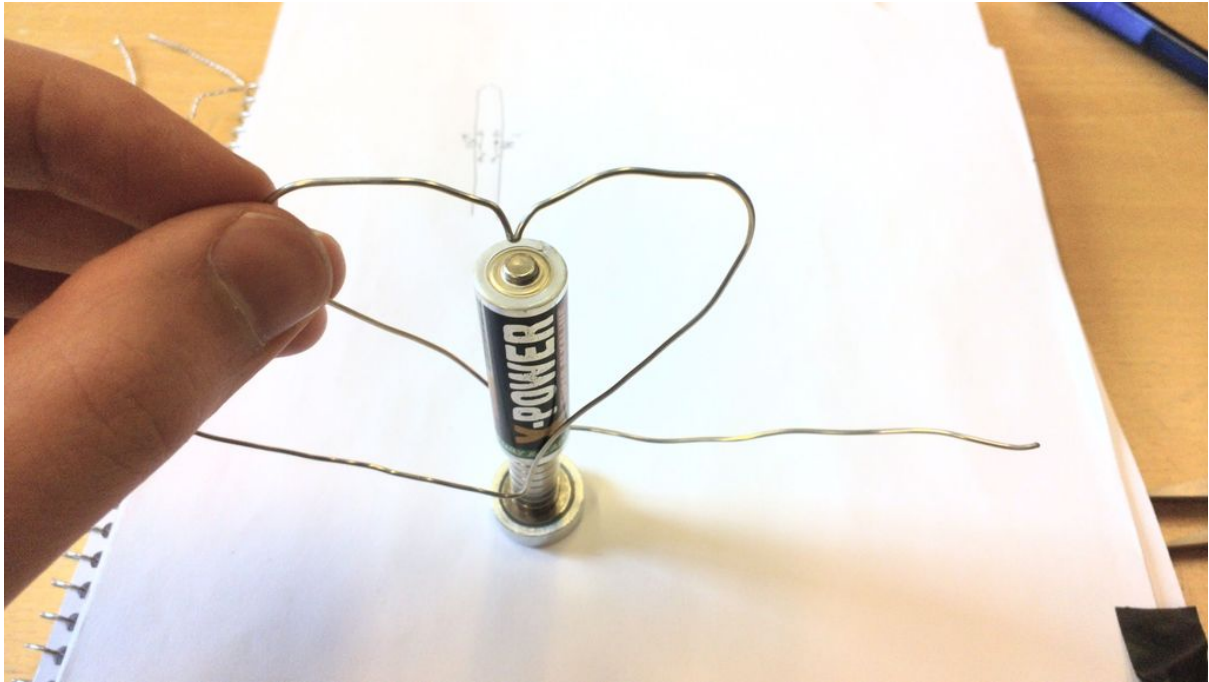

Figure 8
- Place your heart shaped wire on top of the battery and magnet, just so that the wire touches the magnet on each side (Figure 8). Observe what happens.